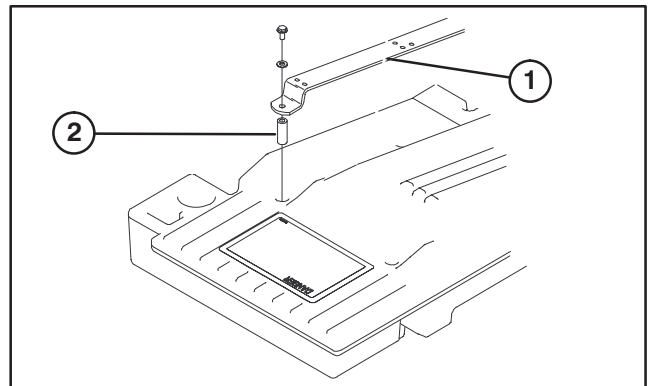

Figure 3
INSTALL SEAT (Fig. 3 – 6)
1. Remove capscrews, washers and spacers securing seat mounting straps to traction unit frame (Fig. 3).